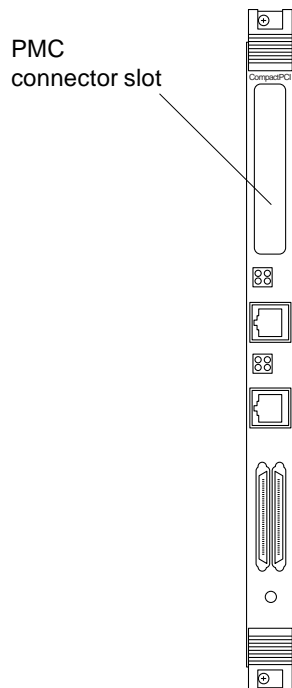

FIGURE 3-5 Connecting PMC Cables to the Adapter
1. If the PMC has a connector to attach to an external device, connect one end of the PMC cable to a PMC connector slot on the front card of the adapter (see FIGURE 3-5).